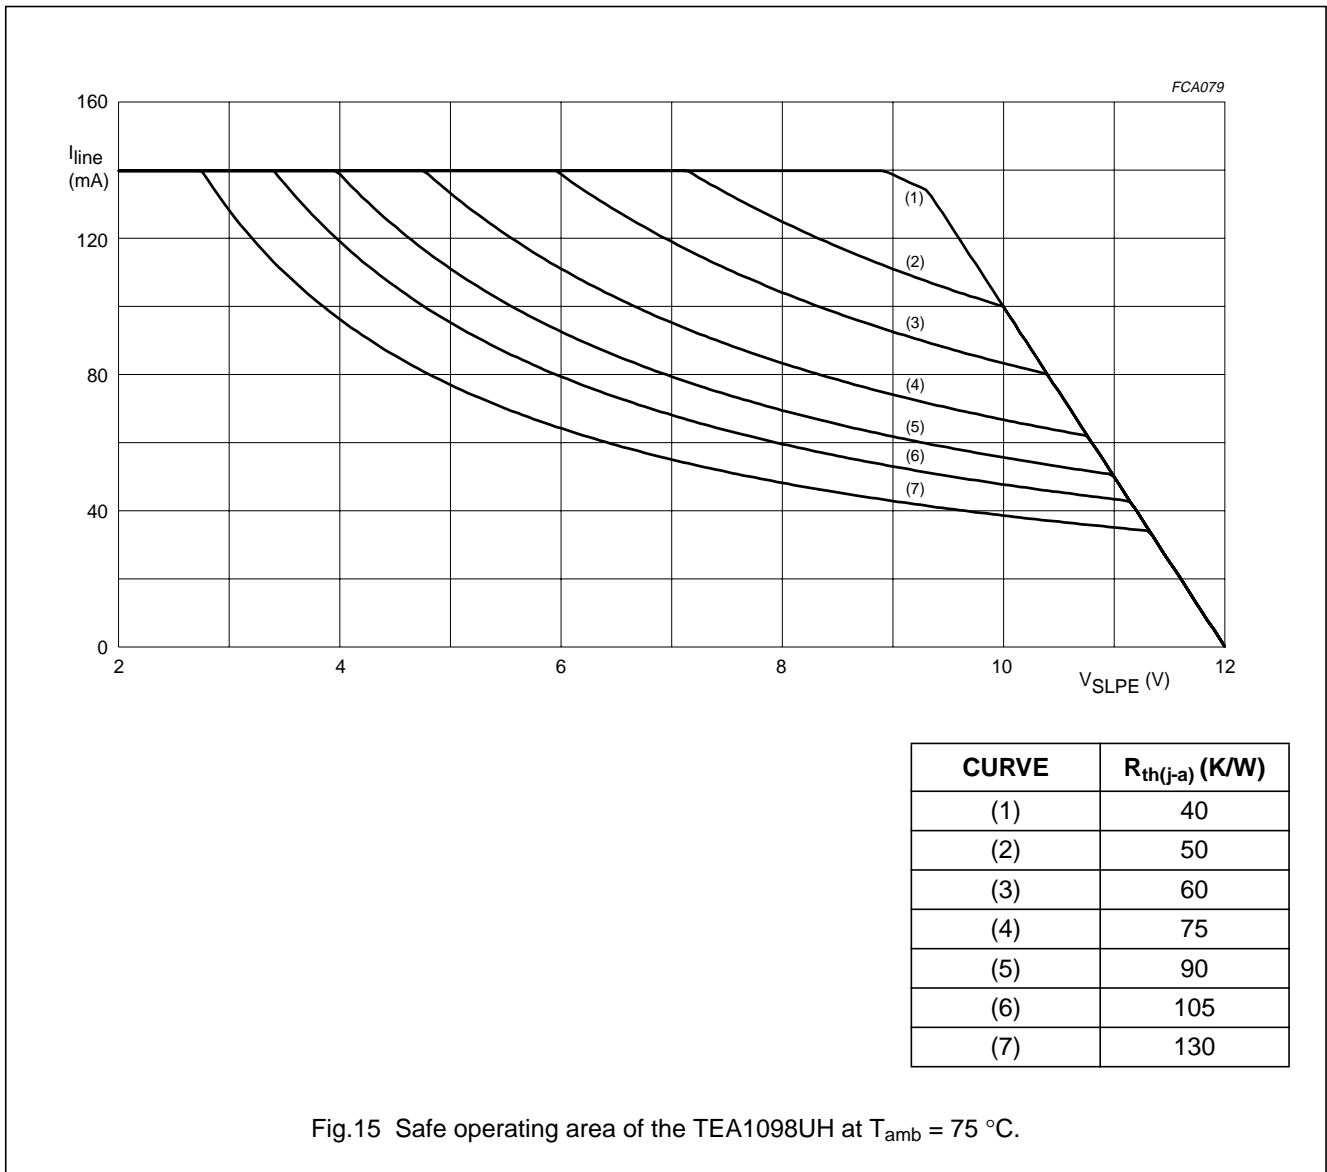

Fig.15 Safe operating area of the TEA1098UH at Tamb = 75 °C.
- Mostly dependent on the maximum required ambient temperature, on the voltage between LN and SLPE and on the thermal resistance between die and ambient temperature. This thermal resistance depends on the application board layout and on the materials used. Figure 15 shows the safe operating area versus this thermal resistance for ambient temperature  $T_{\text{amb}} = 75\text{ }^{\circ}\text{C}$ .